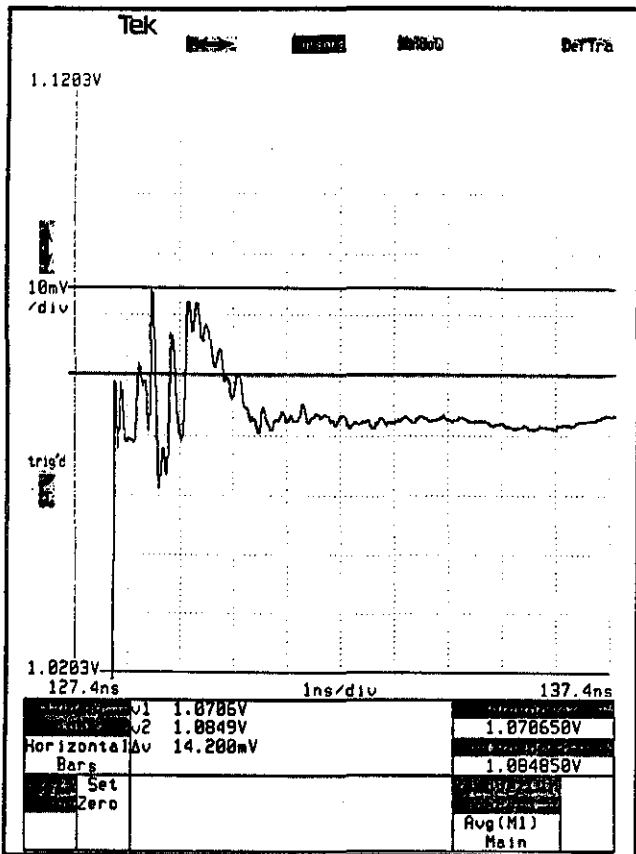

Fig. 4-2. Measurement of step 3 upper peak of aberration.
- i. CHECK — that the peak aberration (delta V) is less than 3% of the amplitude recorded in step 1. See Fig. 4-2.